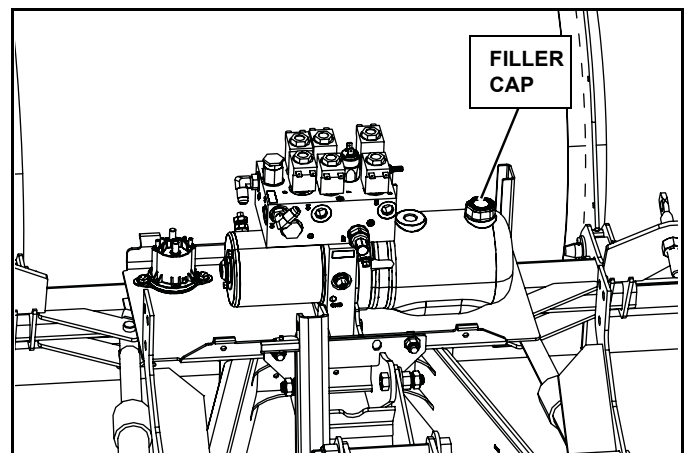

Figure 2-3
4. Remove the filler/breather cap from the reservoir. (See Figure 2-3)